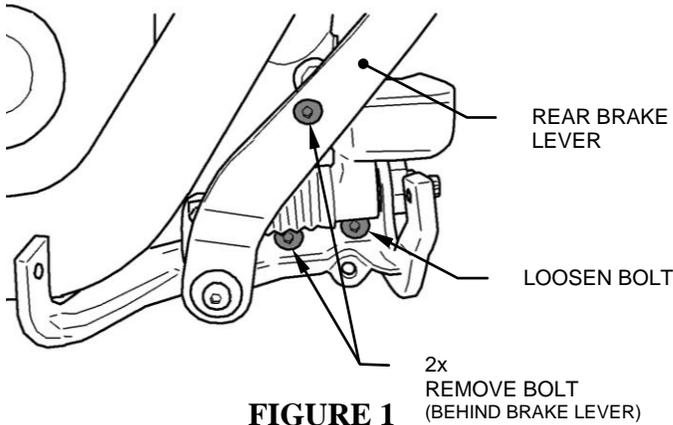

FIGURE 1
1. Remove stock exhaust system. On FLSTC, FLSTN, FLSTF, and FXSTS, remove the right front floorboard. Next remove the two floorboard mounting bracket bolts leaving the third in place but loose and rotate mount down out of the way. (See figure 1). This will make installation of exhaust and heat shields possible.